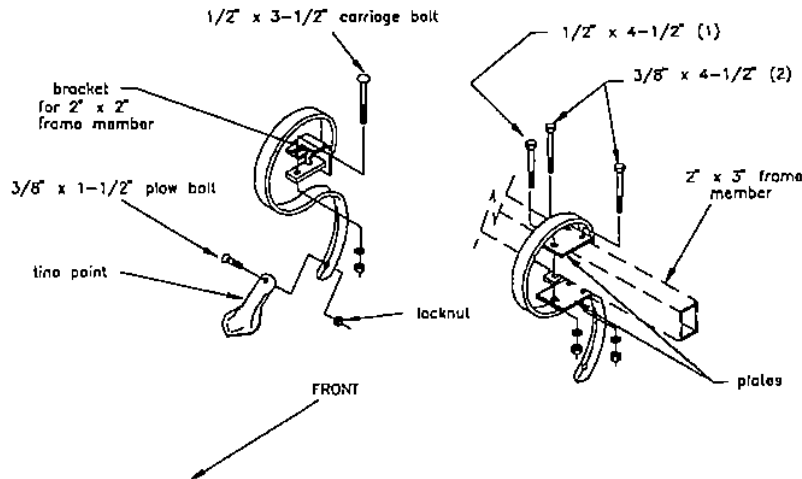

FIGURE 1 - TINE ASSEMBLY
### Frame & Tines refer to fig. 1
4) The tines bolt on the frame members as shown in fig. 1. Refer to the diagram for your model for tine locations and install all tines to the main frame. Do not tighten hardware until you are sure that tines are correctly positioned. Tines should be positioned 16" apart within the rows and offset by 4" from row to row.